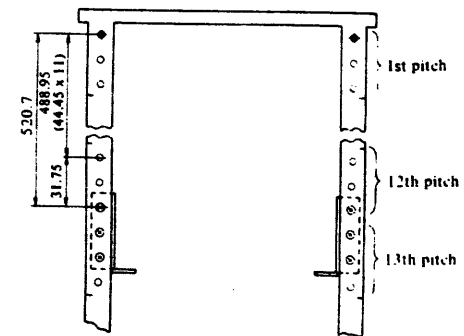

Figure 2.2.13 Rail mounting (4)
- (b) Adjust the rails to the rack. (Refer to Figure 2.2.13)
- (c) Fix the rail to the rack using each 3 holes, one of which is the lowest hole of the 12th pitch and the rest are the top and next hole of the 13th pitch, i.e. the highest of these 3 holes is 520.7 mm from the top hole of the rack. (Refer to Figure 2.2.13)